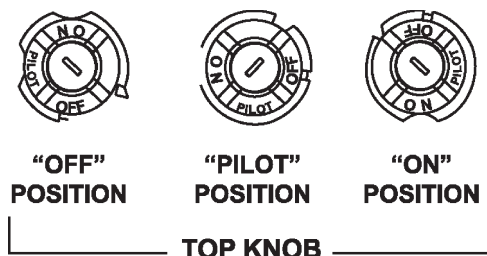

FIGURE 21.
- Turn the gas control knob "A" clockwise to "PILOT". Depress the child safety lever and turn the control knob clockwise to "OFF" position, see Figure 21.